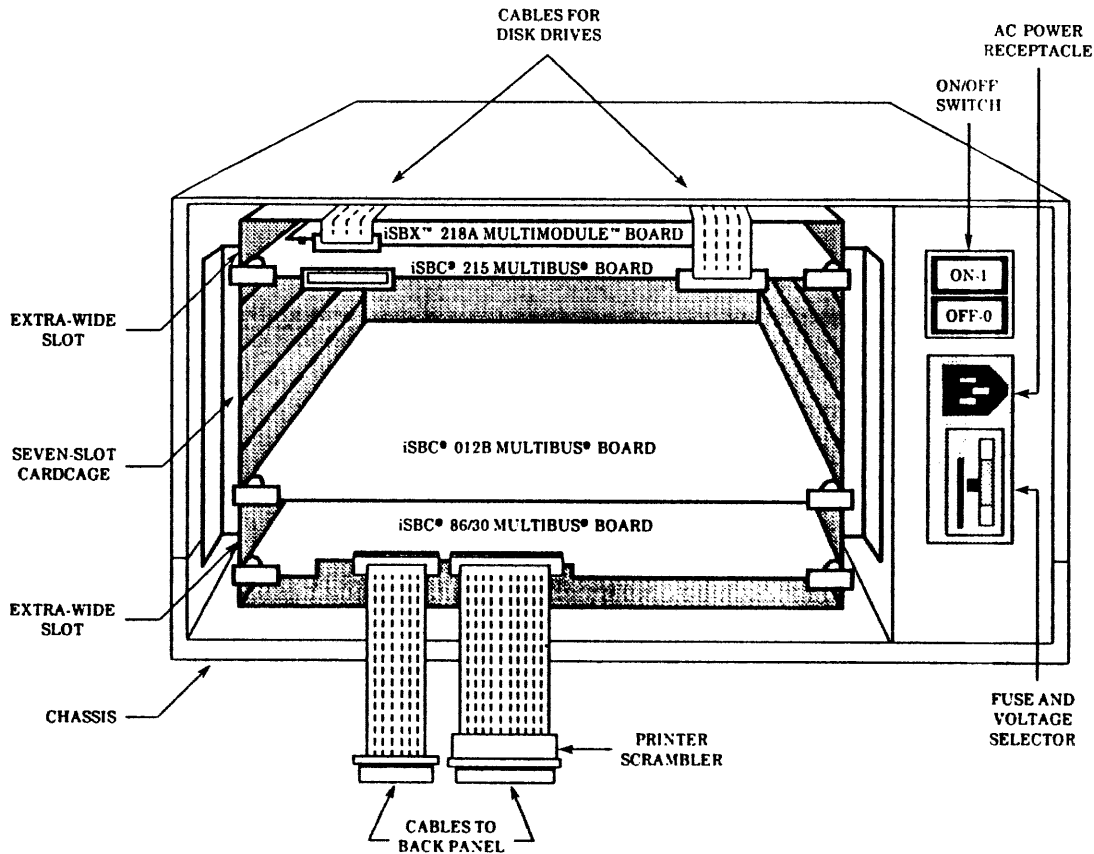

Figure 1-8. Cardcage Components
The backplane is mounted on the rear of the cardcage. As shown in Figure 1-8, the cardcage has seven circuit board slots; these correspond to seven 86-pin MULTIBUS connectors on the backplane. The top and bottom slots in the cardcage have extra space for inserting circuit boards that have expansion modules mounted on them (such as the iSBX 218A on the Winchester Controller). Factory-standard System 310's have the processor mounted in the bottom slot (1) and the Winchester controller in the top slot (7). The memory boards are mounted adjacent to the processor, starting with slot 2. See the backplane component location and schematic diagrams in Chapter 3 for additional details on the backplane circuit board.